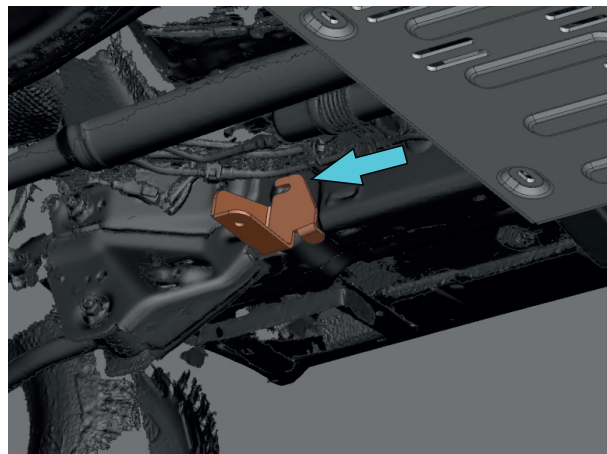

Fig. 6
6. Put bracket (item 3) on installed bolts M10x30 from step 5 (fig. 6).